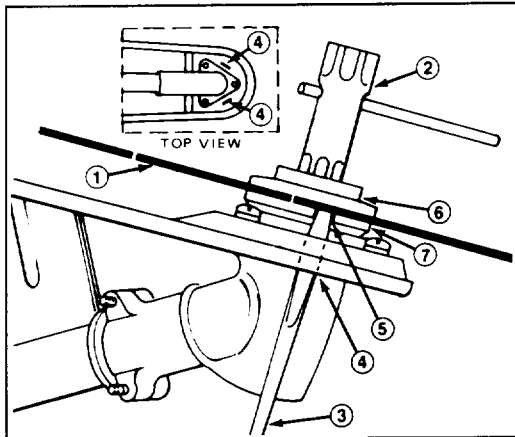

Figure 4
4. Keep shaft from rotating by holding screwdriver as shown and tightening nut securely with wrench (left hand thread) (Fig. 4).